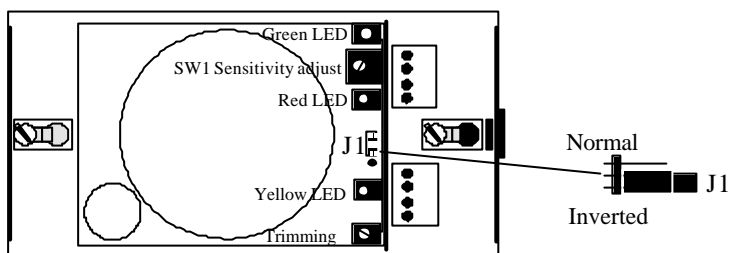

Fig.no. 4
- Connect 24V d.c. to terminals 1(+) and 2 (see fig.no. 4).
- Move the reflector in a horizontal and vertical plane within the area where the reflector is to be mounted and observe if the yellow LED (3) begins to flash.
- Yellow LED (3) flashes when the reflector is within the diameter of the infrared beam. The diameter of the beam is about 60 cm at a distance of 25 m, and it diminishes proportionally in towards the detector.
- If moving the position of the reflector within the intended area does not result in the yellow LED (3) flashing, the reflector must be fixed temporarily.
- Re-align the detector (Tx/Rx) until the yellow LED (3) starts to flash. The reflector is now within the diameter of the beam.
- Move the reflector (up, down, to the right and left) and mark off the limits where the yellow LED (3) goes out. Position the reflector in the centre.